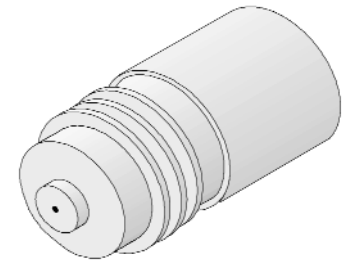

Figure 3. Glass Support Bead Holding Fixture
- Flux glass support bead and insert it, long-end first, into 01-303 Glass Support Bead Holding Fixture (Figure 3).